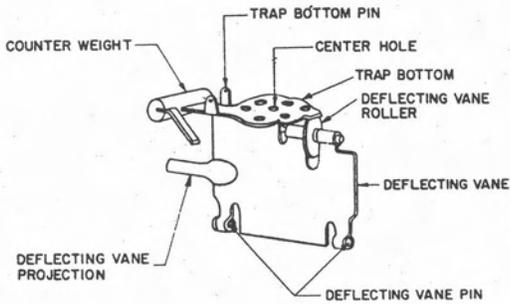
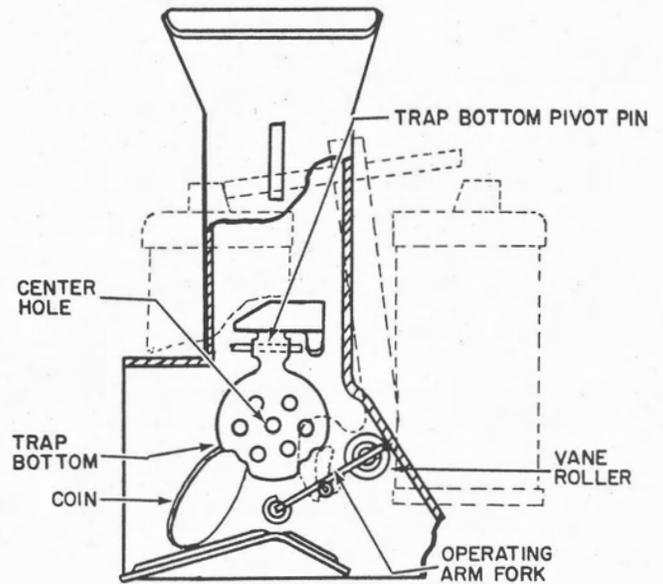
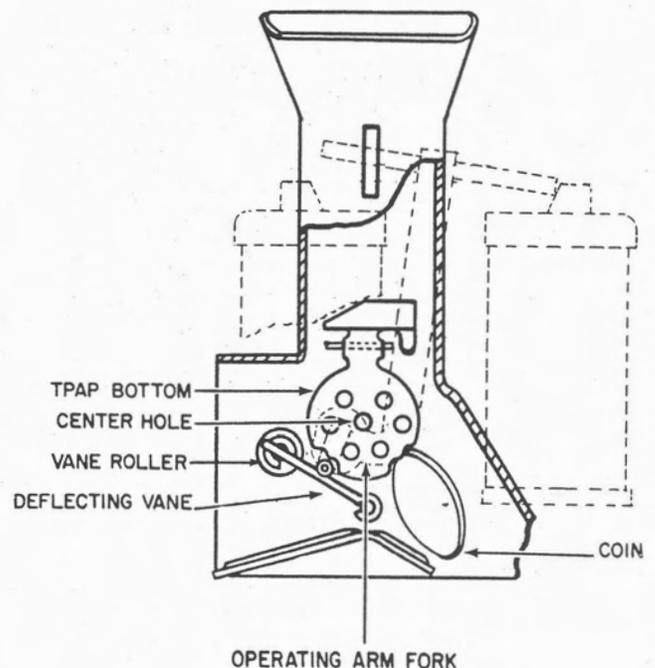
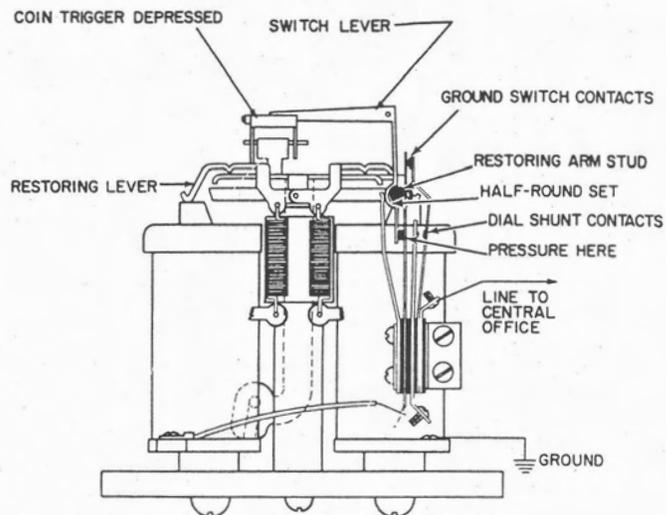

Figure 9. Trap bottom and deflecting vane assembly.
Figure 13. Coin hopper - refund.
Figure 14. Coin hopper - collection.
Figure 17. Coin relay - coin trigger tripped.
3.6 Coin-control mechanism. Figure 8 is a front view of the coin hopper. Figure 9 shows the internal mechanism of the coin hopper. Figure 10 shows a coin just entering the coin hopper mouth. Figure 11 shows the coin trigger (3) still set before a coin has dropped through. Figure 12 shows the coin trigger (3) tripped. Figure 13 shows refund; figure 14 shows collection.
3.6.1 As a coin leaves the coin chute, it enters the coin hopper mouth (figure 10), trips the coin trigger (3, figure 12), and comes to rest on the trap bottom (figure 9). The trap bottom is held up by the deflecting-vane roller, therefore, the coin remains on the trap bottom.
3.6.2 The deflecting-vane projection engages with the operating-arm fork of the coin relay (5, figure 11). The operating-arm fork of the coin relay moves to the right, or to the left, depending on the polarity of the current sent from the central office. The deflecting-vane projection, being engaged with the operating-arm fork, causes the deflecting vane to move to the right, or to the left, respectively. As the deflecting vane moves, the roller moves from beneath the trap bottom (figure 13). The weight of the coin overcomes the trap-bottom counterweight (figure 9) causing the trap bottom to pivot on its pin, and permitting the coin to slide off of the trap bottom. The coin is then deflected to the right, or to the left by the deflecting vane. Figure 13 illustrates the coin being deflected to the left to the coin return chute. Figure 14 illustrates the coin path after a completed call; the coin is deflected to the right, into the cash compartment.
3.6.3 The central-office equipment controls collection or refund of the coin or coins by placing either +110 volts dc or -110 volts dc on the line. On an unanswered call (after the calling party hangs up) -110 volts dc placed on the line operates the coin relay to move the operating arm to the right and correspondingly positions the deflecting vane to deflect the coins into the refund compartment (figure 13). On a completed call (after calling party hangs up), +110 volts dc placed on the line operates the coin relay to move the operating arm to the left and correspondingly position the deflecting vane to deflect the coins into the cash compart-
ment (figure 14). After the coin has dropped, the trap-bottom counterweight will return the trap bottom to the horizontal position. As the control current is removed from the coin relay, the coin relay will restore; the operating arm will return to the vertical position. Correspondingly, the deflecting vane will return to the vertical position again to support the trap bottom.
3.7.1 Figures 16, 17, 18, and 19 illustrate the various parts and operating conditions of the coin relay. The operating arm assembly, pivoted in the center, is mounted on top of the armature. It consists of the fork that engages the deflecting-vane projection (4, figure 15), the horizontal portion which is in contact with the armature (figure 14), and the restoring arm, (figure 16) which carries the stud that operates the ground-switch springs. Above the operating arm are the restoring levers (figures 17 and 20) pivoted on the same pin as are the operating arm and armature. The restoring levers are in contact with the operating arm and are also connected to the restoring springs which provide a spring bias (figure 16). The restoring levers ensure that when direct current to the coils is removed, the operating arm will return
and forces it downward, causing the latch to move away from the switch lever and allowing the switch lever to drop slightly. The switch lever now prevents the coin trigger from returning to the horizontal position because the coin-trigger latch is now butting up against the switch lever (figure 12). In figure 17, note the position of the stud, switch lever, and contacts. The end of the switch lever with the half round set moves to the right and closes the ground-switch contacts but simultaneously opens the dial-shunt contacts. The restoring-arm stud remains in the center. The dial can now send pulses, unless the coin dropped was a first nickel; in this case, the microswitch places a shunt across the dial, preventing pulses from